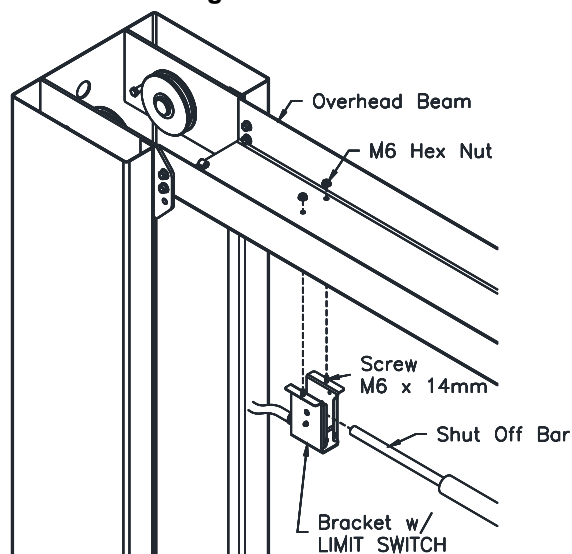

Fig. 5 – Overhead Limit Switch Power Side
- 14) Install Overhead Limit Switch to the Overhead Beam using the rear set of holes on the Power Side of the lift. **Fig. 5**.